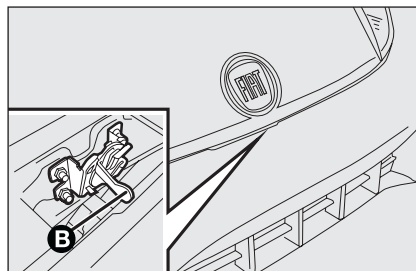

fig. 86
- ☐ pull the lever **B**-fig. 86 and lift the bonnet;